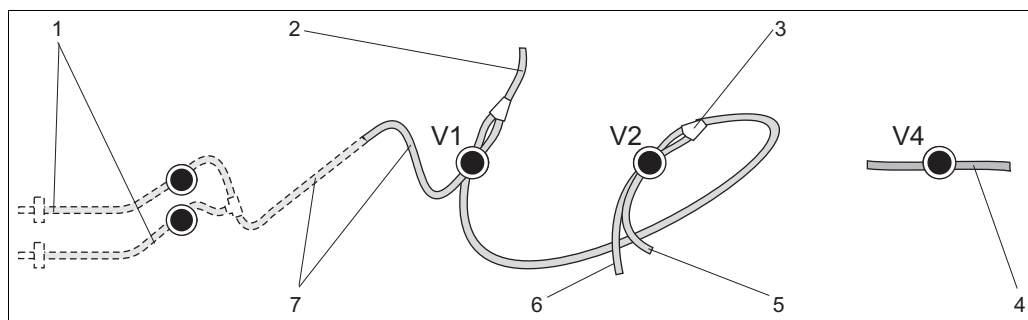

Fig. 17: Valves and valve hoses
3. Replace the new pump hoses in the reverse sequence of operations. Ensure that the hoses are connected correctly (→ Fig. 17).